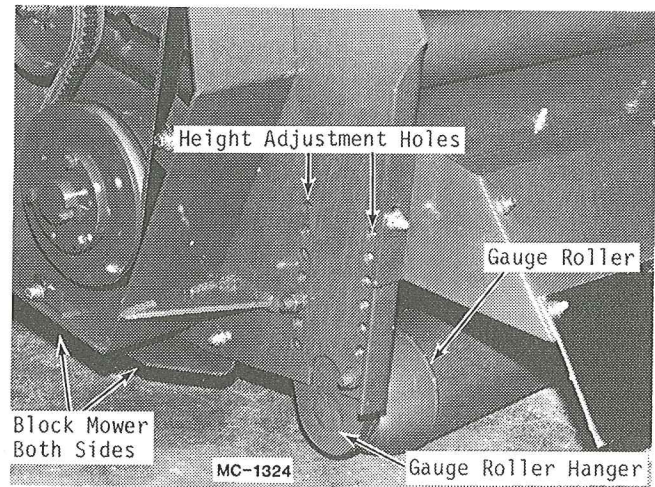

Figure 18
1. Lift the back of the Mower to take the weight off of the gauge roller. **Do not** lift the Mower by the rotor. (See blocking position, Figure 18.)
2. Remove the two 1/2" capscrews on each side of the Mower that secure the gauge roller hangers to the Mower side plates. (See Figure 18.) Roll the gauge roller out from under the Mower.